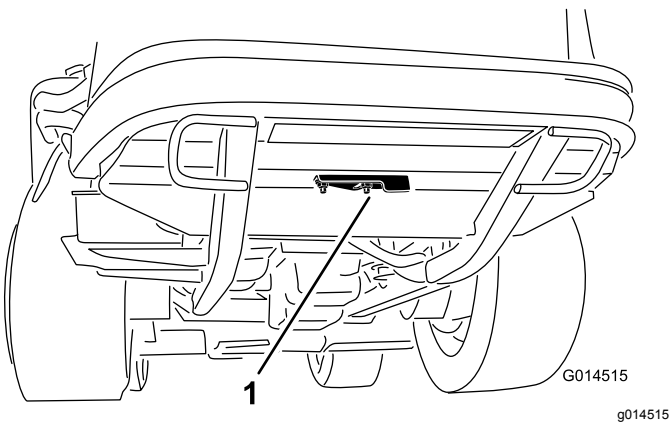

Figure 60
2. Loosen the flange nut securing the clean out cover to the underside of the rear frame (Figure 60). Rotate the cover to the side to expose the clean out hole in the frame.